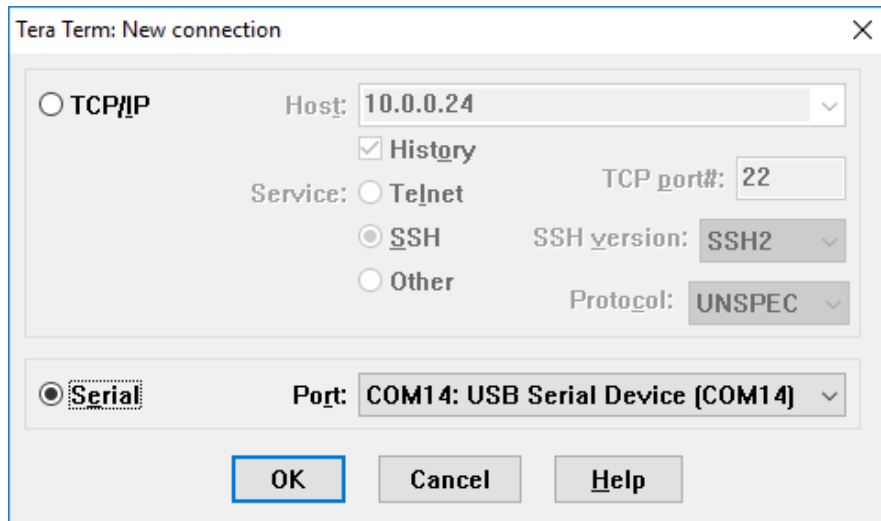

Figure 6-3 Com Power Selection
3. Then launch the TeraTerm application, then select the serial and select the correct COM Port and select “OK”. (see Figure 6-3)